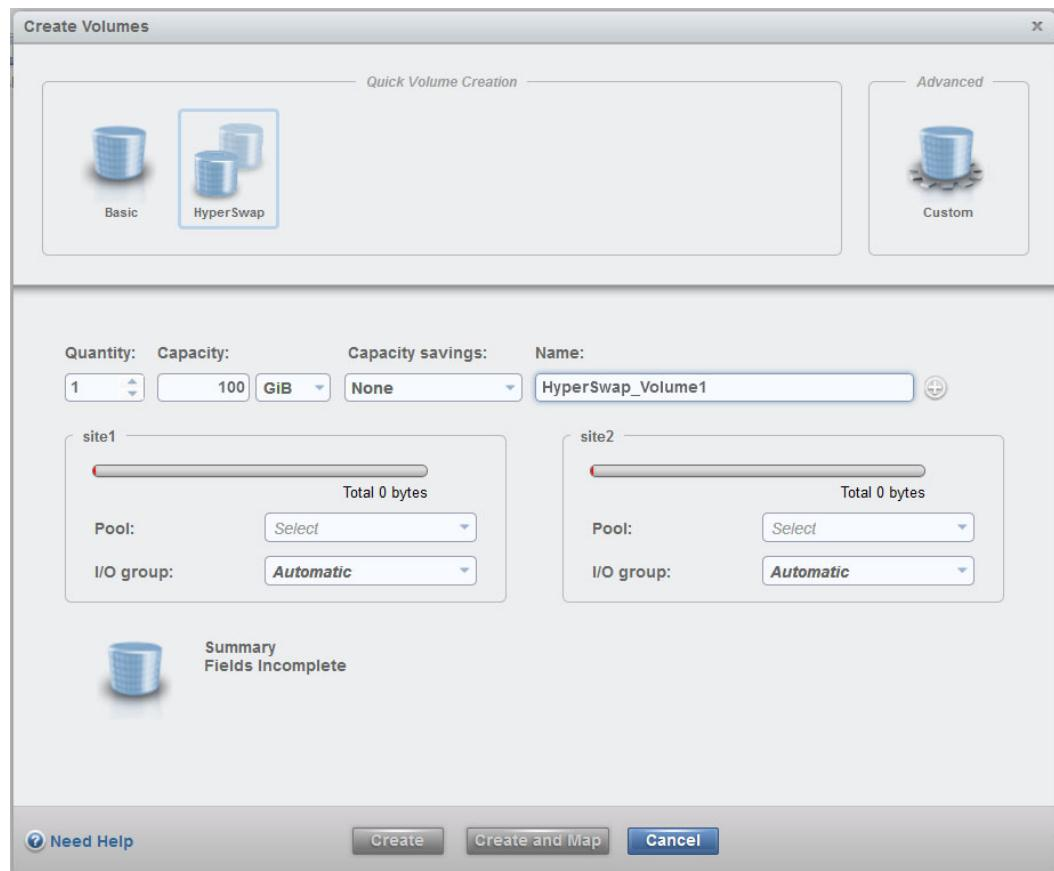

Figure 7-67 HyperSwap Volume creation
- ▶ If you are using the management GUI, use the Create Volumes wizard to create the HyperSwap volumes. Click **Volumes** → **Volumes** → **Create Volumes** and select **HyperSwap** to create HA volumes, as described in Figure 7-67.